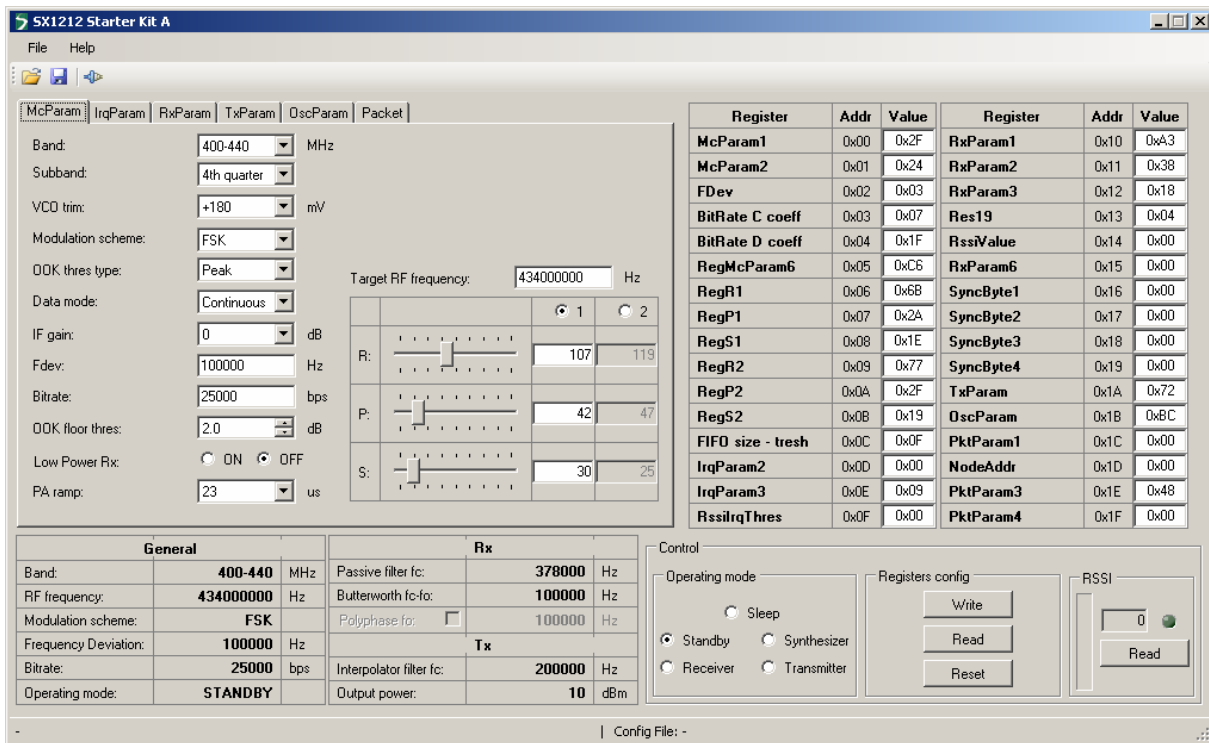

Figure 6. SX1212 User Interface, Default Settings
5. Once connected the SX1212SKA shows the default configuration of the SX1212 register settings upon power-up (as shown in Figure 6).